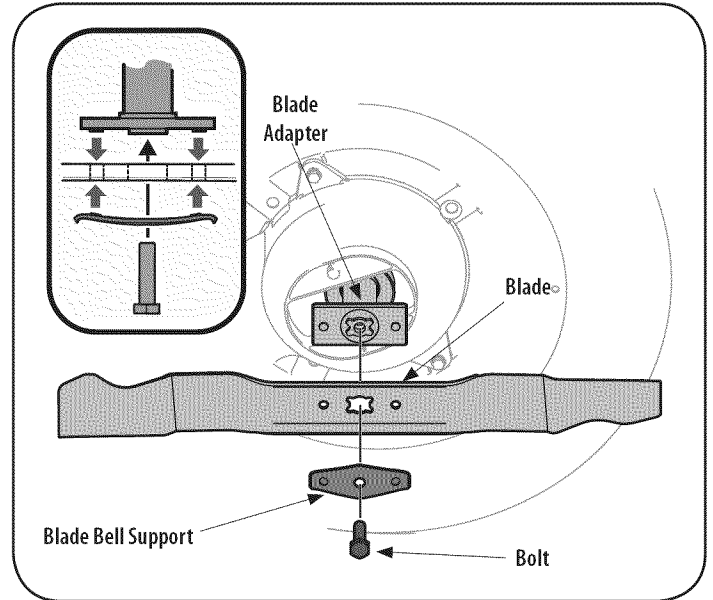

Figure 19
3. Remove the bolt and the blade bell support which hold the blade and the blade adapter to the engine crankshaft. See Figure 19.
6. Lubricate the engine crankshaft and the inner surface of the blade adapter with light oil. Slide the blade adapter onto the engine crankshaft. Place the blade on the adapter such that the side of the blade marked "Grass Side" (or with part number) faces the ground when the mower is in the operating position. Make sure that the blade is aligned and seated on the blade adapter flanges. See Figure 19 inset.